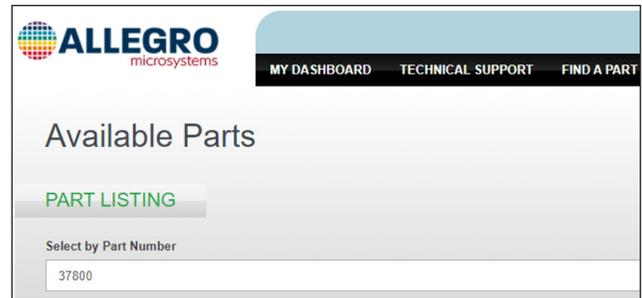

Figure 5: “View” next to “ACS37800” search result
5. Click “View” next to the ACS37800 search result as shown highlighted in Figure 5.